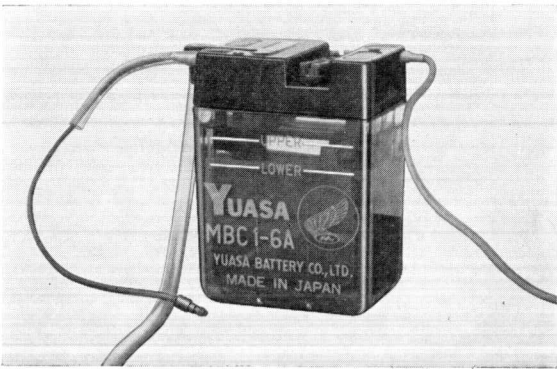

Figure 6-42. Battery
- a. Remove the battery box, disconnect the battery cable from the battery, unfasted the battery band and remove the battery. (Fig. 6-42) The standard battery used is the MBC 1-6. (Mfg. by Yuasa Battery Co.)